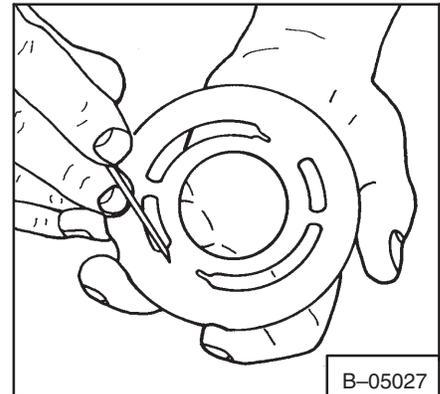

Fig. 3-118 Checking Wafer Plate
- Check the wafer plate for wear and damage (Fig. 3-118). If grooves can be felt on the surface with your fingernail replace the wafer plate. Make sure the wafer plate is flat against the manifold block.